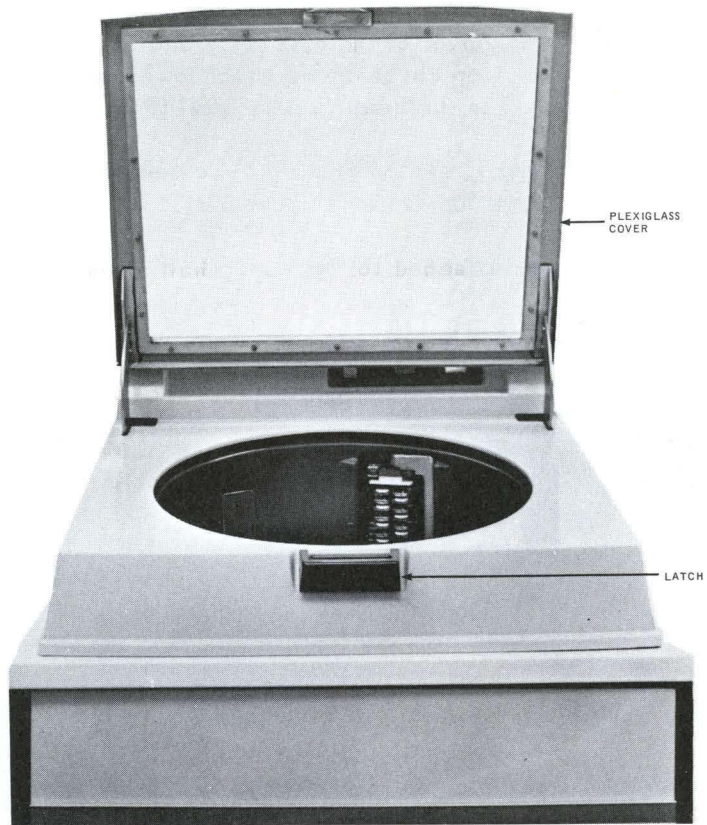
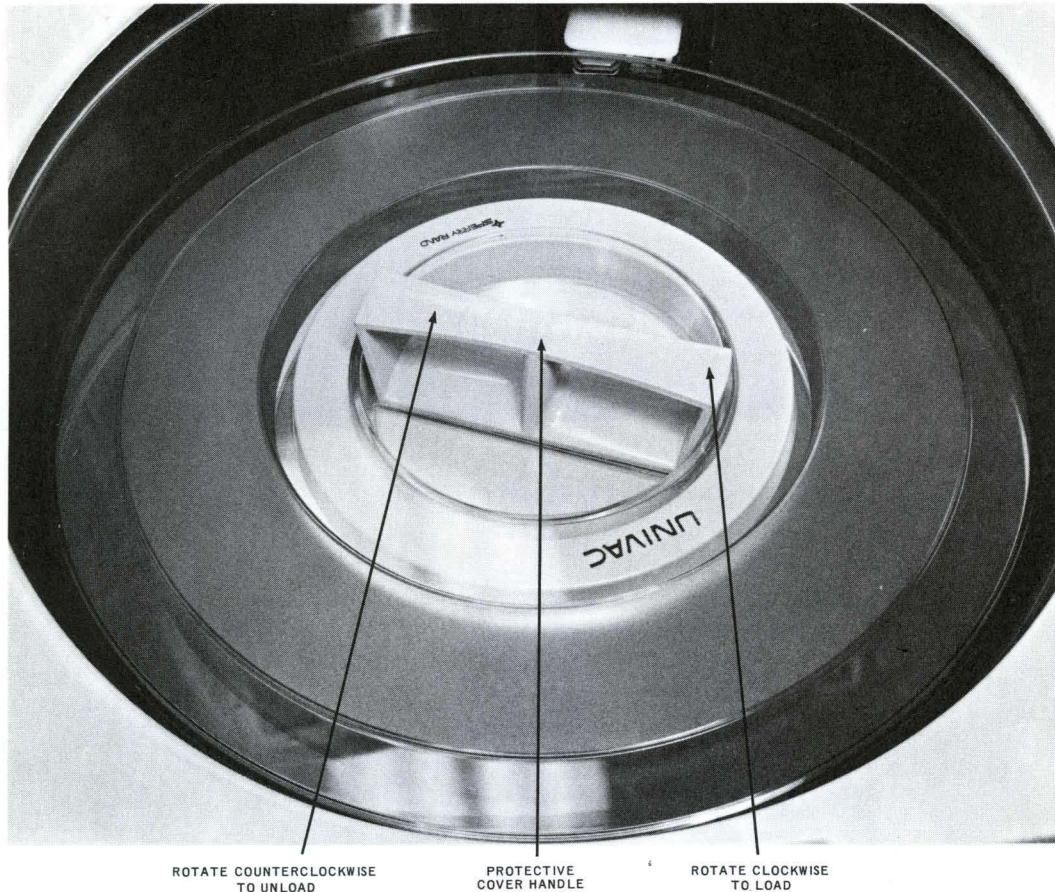

Figure 4-1. Disc Drive Unit with Plexiglass Unit Cover Open
Figure 4-3. Disc Pack Seated in Well of Disc Drive Unit
- (2) Open the spring-loaded, plexiglass unit cover by pressing down the latch located on the front of the shroud; the cover springs up without manual assistance (Figure 4-1).
- (5) When the disc pack is seated firmly on the conical drive shaft, spin the pack clockwise until rotation stops (Figure 4-3).
- (6) The disc is firmly attached to the drive shaft when it can no longer be rotated clockwise; lift the protective cover from the pack and close the unit cover (press gently but firmly until a click is heard at the latch).
- (1) Open the plexiglass unit cover by pressing down the latch on the front of the shroud; the cover springs open (Figure 4-1).
- (2) Seat the plexiglass cover on the disc pack.
- (3) Grasp the handle of the disc pack cover and turn the pack counterclockwise (Figure 4-3) until a click is heard; lift disc pack off the conical drive shaft and out of the unit.